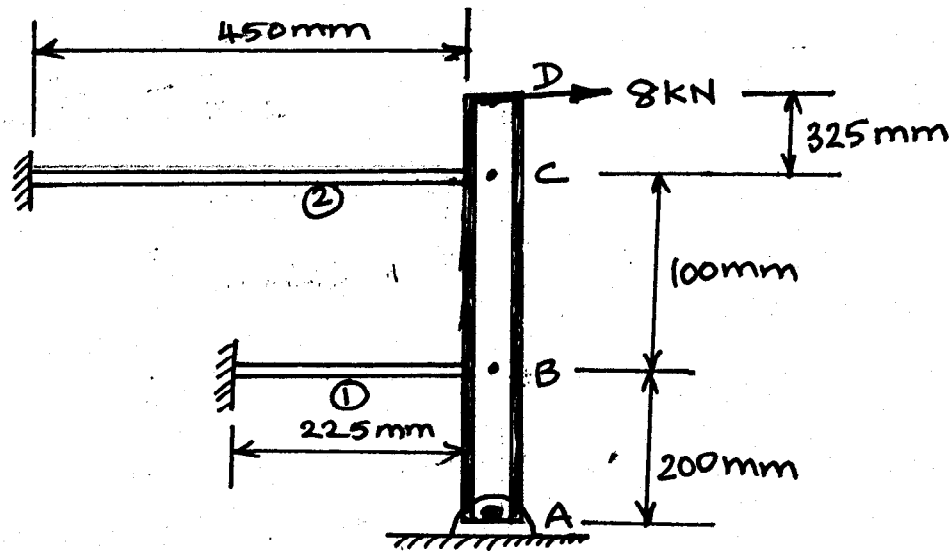

Fig. Q3.
- Q3. A rigid beam AD is supported by a smooth pin at A and by horizontal bars (1) and (2) attached to the beam at points B and C respectively. Bar (1) is brass with cross sectional area of  $350 \text{ mm}^2$  and an elastic modulus of  $110 \text{ G N/m}^2$ . Bar (2) is steel with cross sectional area of  $175 \text{ mm}^2$  and an elastic modulus of  $190 \text{ G N/m}^2$ . A concentrated load of  $8 \text{ kN}$  is applied to the tip of the beam at D as shown in fig. Q3. Assume that the pin connections at B and C are ideal, meaning that there are no gaps. Compute the